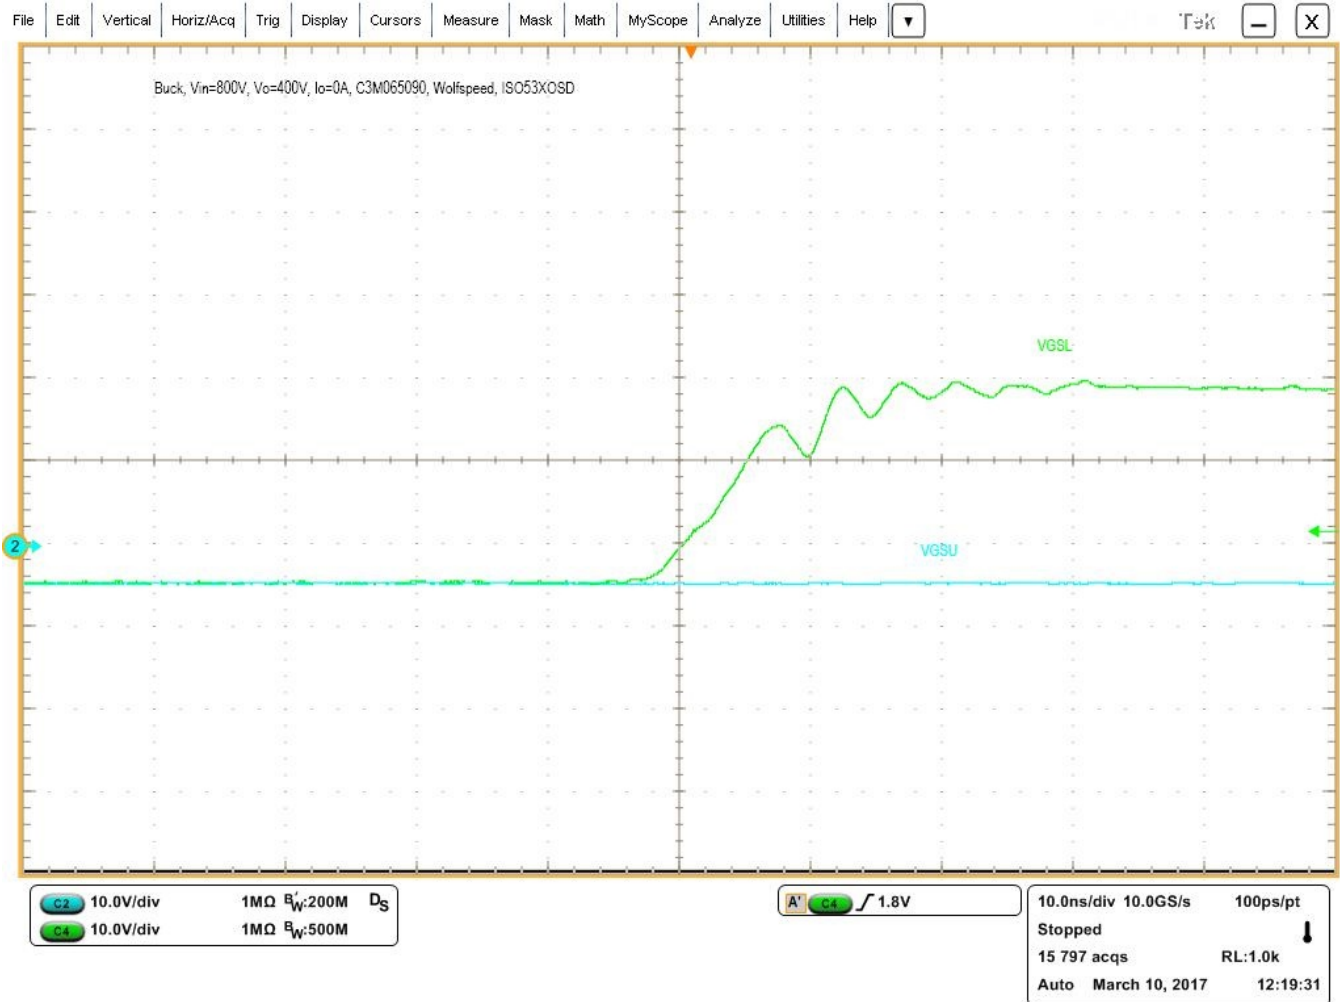
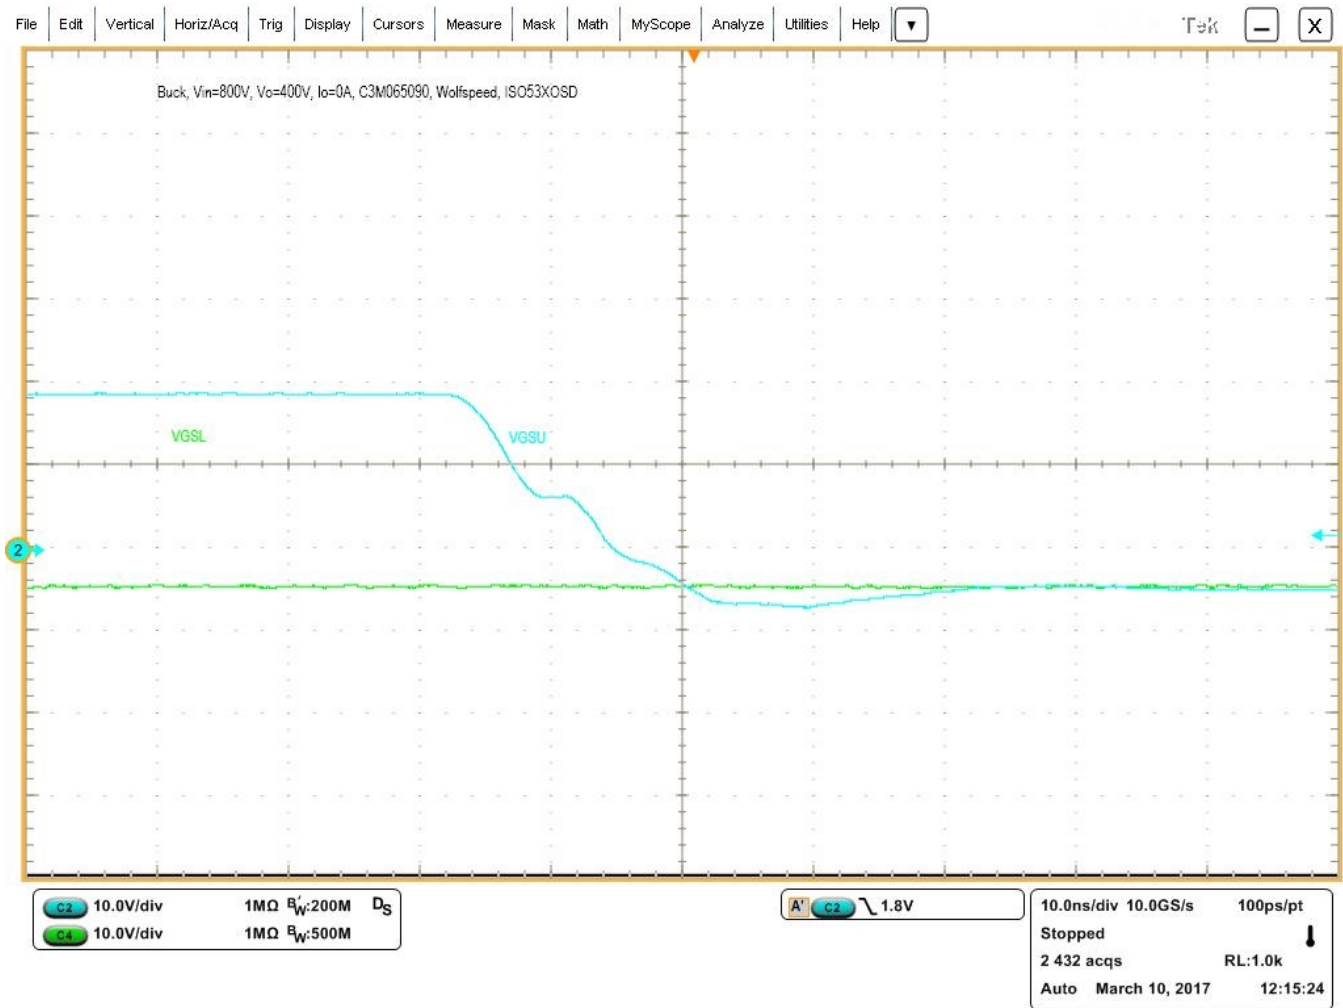

Figure 7. Expanded Gate-Source Drive Voltage Rise Time
Figure 8. Expanded Gate-Source Drive Voltage Fall Time
1. Expand the horizontal scale of oscilloscope from 2 μs/div to 10 ns/div, and verify rise and fall time of the driver board indicating high output current capability of UCC5390SCD driver ICs (Figure 7 and Figure 8).